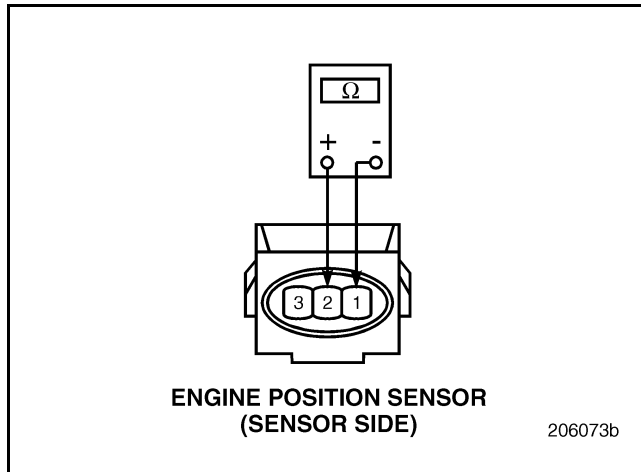

Figure 382
2. Disconnect the Engine Position (EP) Sensor harness connector.
3. Measure the resistance between sensor terminals 1 and 2 (see Figure 382).